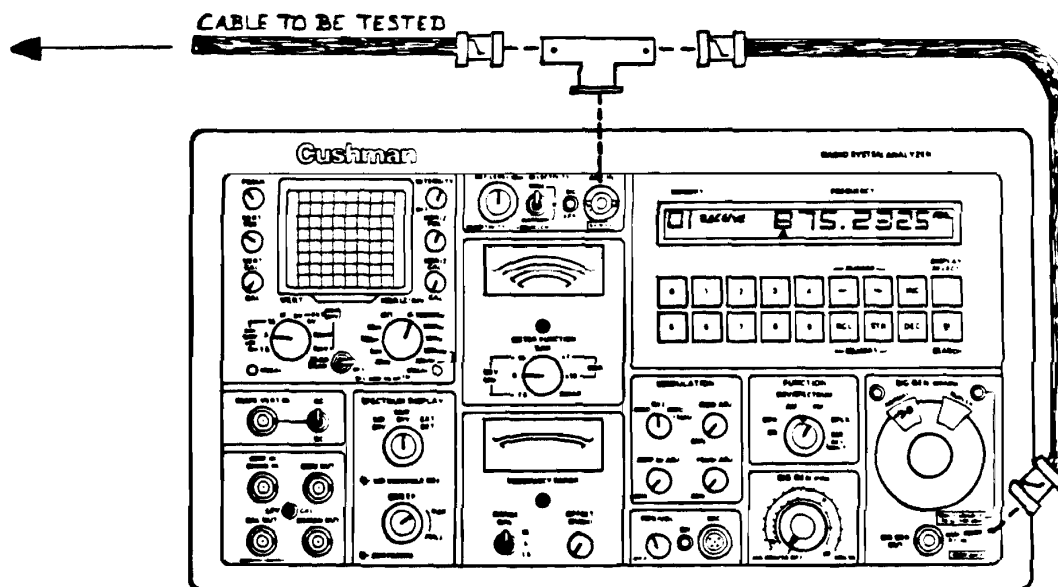

Figure 4-13. Cable Fault Location Test Set-up
- i. Remove the Reference stub from the ANT IN "Tee" connector, and connect the transmission line to be tested in its place. Refer to Figure 4-13.